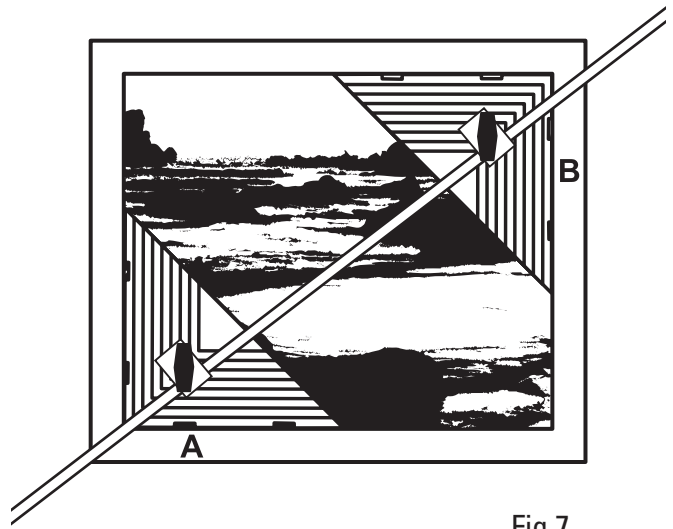

Fig.7
Step 1 – Loosen the adjustment knobs on both the alignment triangles and slide Triangle A into the lower left hand corner of the image to be framed and tighten knob. (Fig. 7)